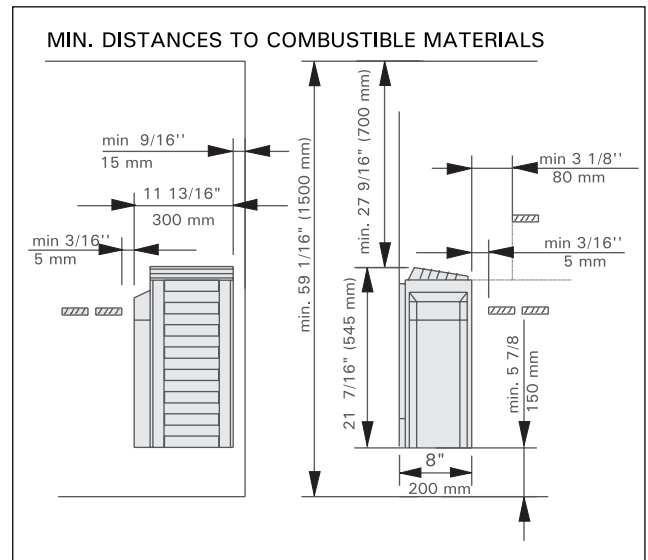
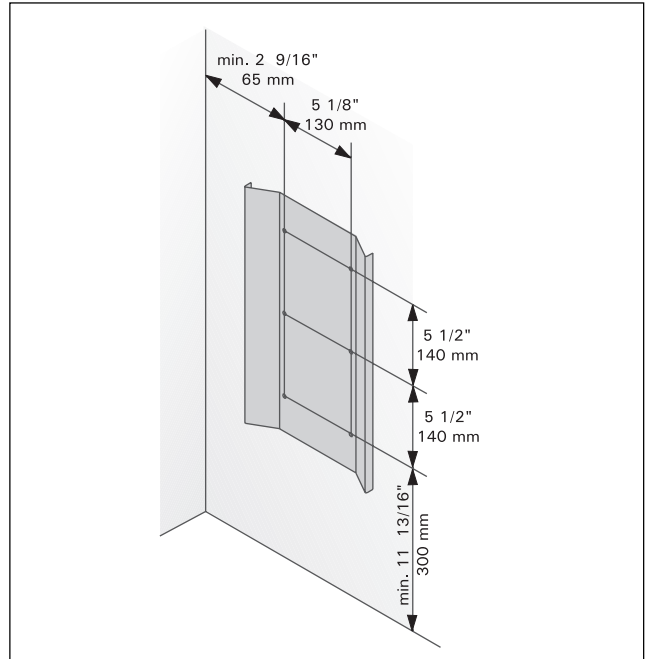

Figure 5. Min. distances to combustible materials
Figure 6. Location of the mounting rack of the heater
- The location of the heater fulfils the minimum requirements concerning safety distances given in fig. 5 and table 1.
1. Fasten the wall-mounting rack on the wall by using the screws which come with the rack. Observe the minimum safety distances given in table 1 and fig. 5. The fastening of the mounting rack is shown in figure 6.